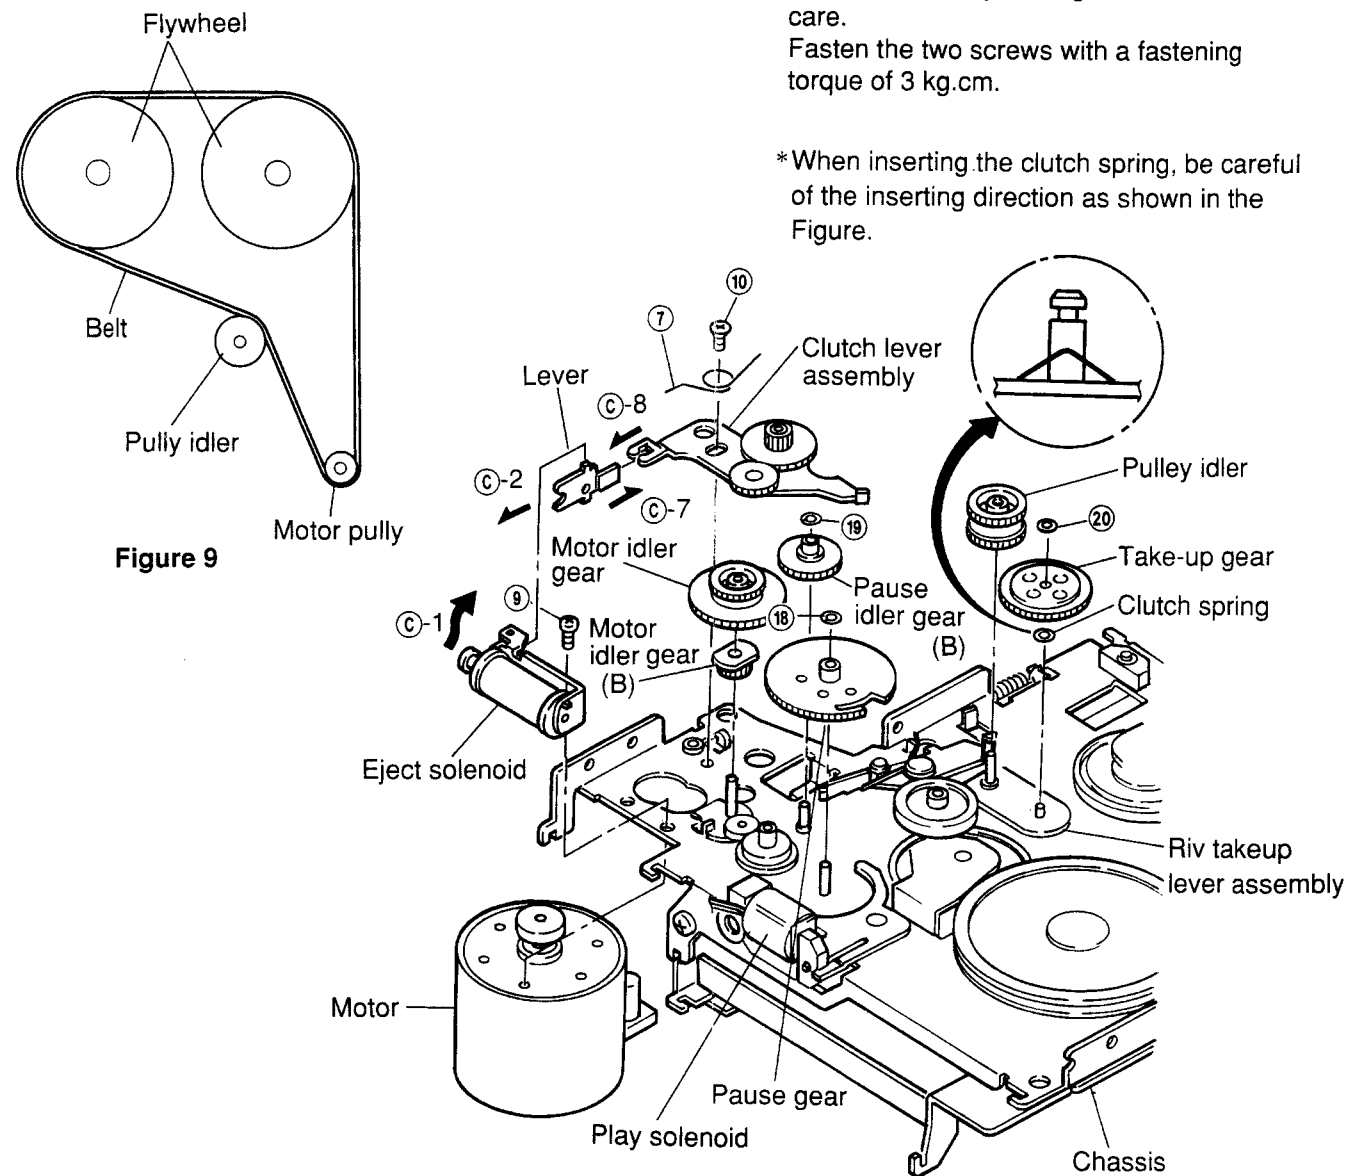
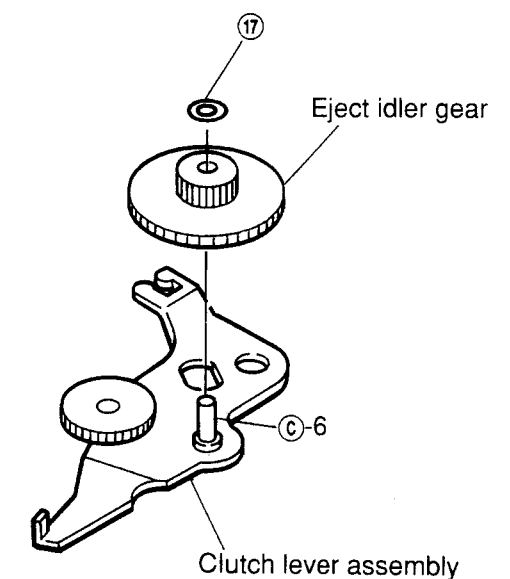

Figure 10
Figure 15
- (1) After removing the belt, remove spring ⑦ as shown in Figure 10.
- (3) Remove two screws ⑨ and ⑩, and remove the motor, taking care not to damage the motor idler gear. (Refer to Figure 10.)
- (4) Mount the new motor following the removal steps in the reverse order.
- (2) Remove screw ⑨ and remove the play solenoid as shown in Figure 10.
- (3) Align position C-1 of the new solenoid with position C-2 of the lever and fasten the screw as shown in Figure 10.
- (4) Lead the wire through the tube and solder it.
- (1) After removing the motor, remove the motor idler gear and the motor idler gear (B) and remove the clutch lever assembly as shown in Figure 10.
- (2) Remove M1.2 lock washer (17) and remove the eject idler gear as shown in Figure 15.
- (3) Mount the new gears and clutch lever following the removal steps in the reverse order.
Note: When mounting the gears to the lever, apply grease (FLOIL 425A) to the position ㉔-6 as shown in Figure 15. Align the position ㉔-7 with the position ㉔-8 and mount the clutch lever as shown in Figures 10 and 15.
- (1) Remove M1.2 lock washer (18) and remove the pause gear pulling it up from the stud of the chassis as shown in Figure 10.
- (2) Mount the new gear following the removal steps in the reverse order.
- (1) After removing the motor and the motor idler gear, remove M1.2 lock washer (19) and remove the gear by pulling it up from the stud of the chassis as shown in Figure 10.
- (2) Mount the new gear by following the removal steps in the reverse order.
- (1) After removing the belt and the pulley idler gear, remove M1.2 lock washer (20) by pulling it up from the stud of the riv take-up lever assembly as shown in Figure 10.
- (2) Remount the take-up gear following the removal steps in the reverse order.